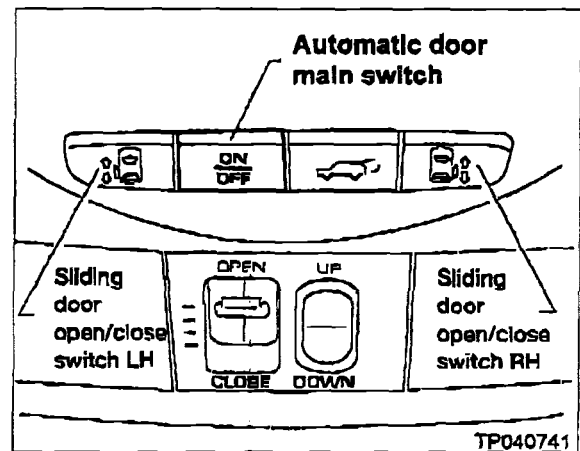

Figure 21
22. Turn the Automatic Door Main Switch OFF (see Figure 21).